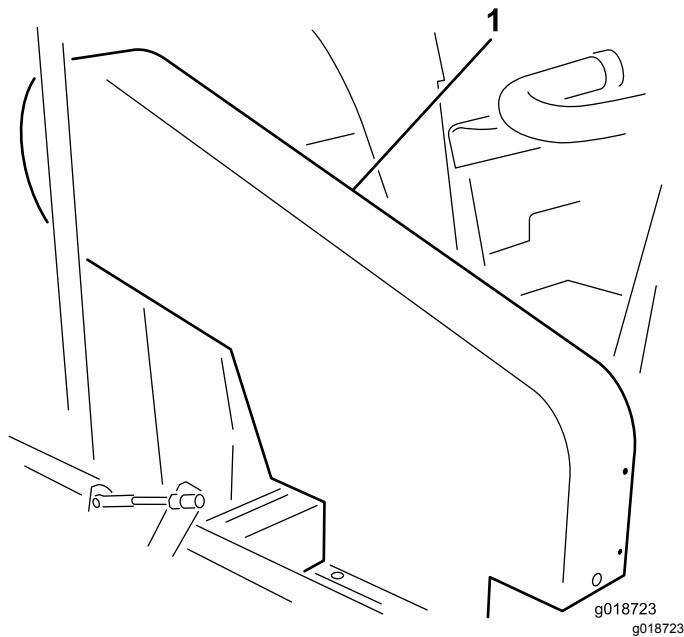

Figure 19
Note: It is not necessary to remove the upper belt guard (Figure 19) to check the belt tension. If you remove the belt guard, remove the 4 bolts, washers, and nuts securing the guard to the frame. Do not operate the machine without the guards in place.
Check the tension by pressing the belt at the midspan of the impeller and clutch pulleys with 18 to 22 N (4 to 5 lb) of force. The belt should deflect 1.3 cm (1/2 inch). If the deflection is incorrect, refer to Adjusting the Impeller Drive Belt (page 25). If the deflection is correct, continue normal operation (Figure 19).
Check the tension by pressing the belt at midspan of the jackshaft and clutch pulleys with 18 to 22 N (4 to 5 lb) of force. The belt should deflect 6 mm (1/4 inch). If the deflection is incorrect, refer to Adjusting the Jackshaft Belt (page 25). If the deflection is correct, continue normal operation (Figure 19).
1. Remove the 4 bolts, washers and nuts securing the upper shroud to the frame (Figure 19).